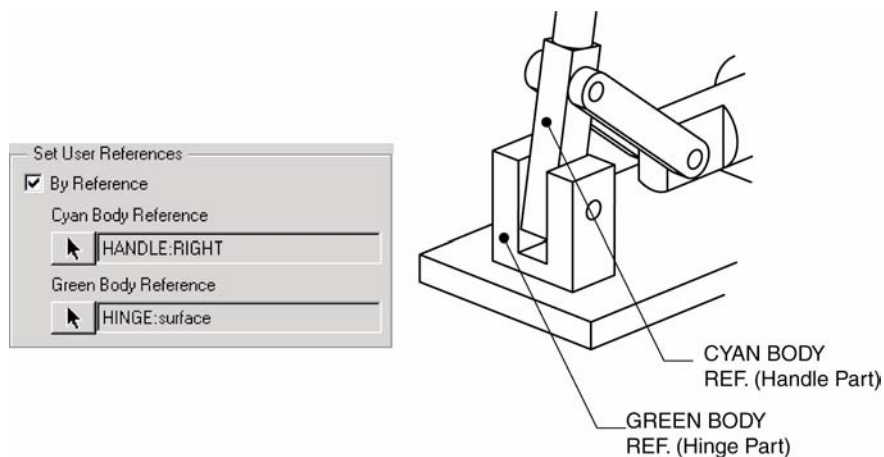

Figure 12-106: Zero Reference Selection
Step 9: Select the **SET ZERO** option on the dialog box then set the **CYAN BODY REFERENCE** and the **GREEN BODY REFERENCE** as shown in **Figure 12-106**.